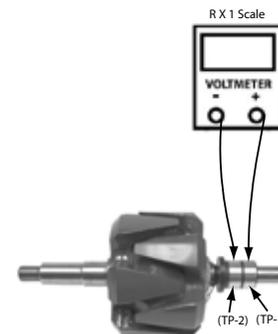

Fig 2
Step 2: Connect multimeter test leads per Fig 2 and record resistance reading.